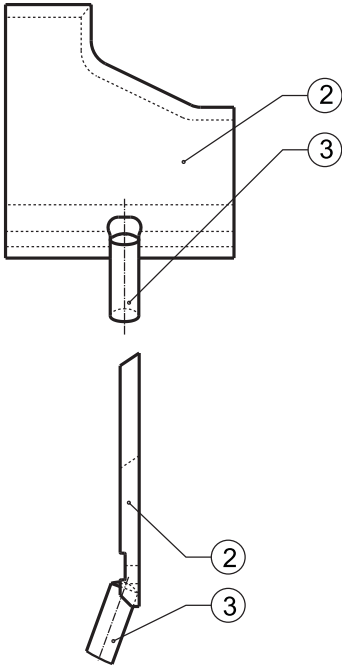

Fig. 5
5. Replace profile knife (2) properly into the knife seat. **Be sure that the stop cam (3) leans firmly into the corresponding notch of the profile knife** (s. fig. 5).
6. Replace profile knife (2) properly into the knife seat. **Be sure that the stop cam (3) leans firmly into the corresponding notch of the profile knife (s. fig. 5).**